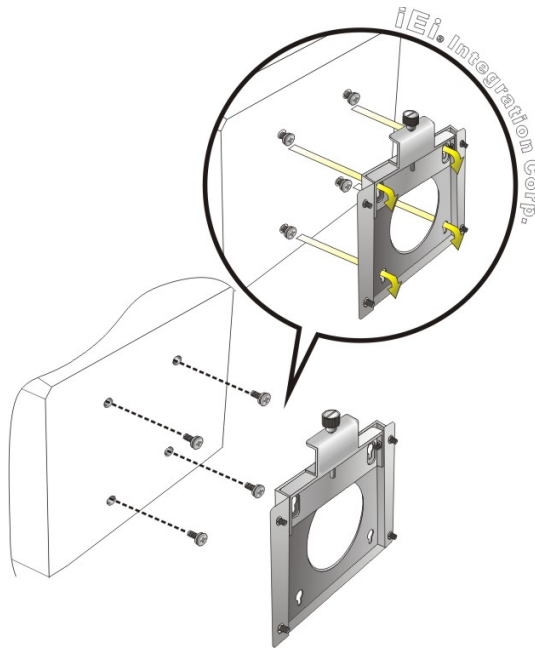

Figure 3-40: Hook Onto Wall Mounting Kit
Step 2: Screw the mounting screws to the mounting holes on the rear of the DM-F series (Figure 3-40).
Step 3: Hook the DM-F series into the mounting holes on the wall mounting kit (Figure 3-40).